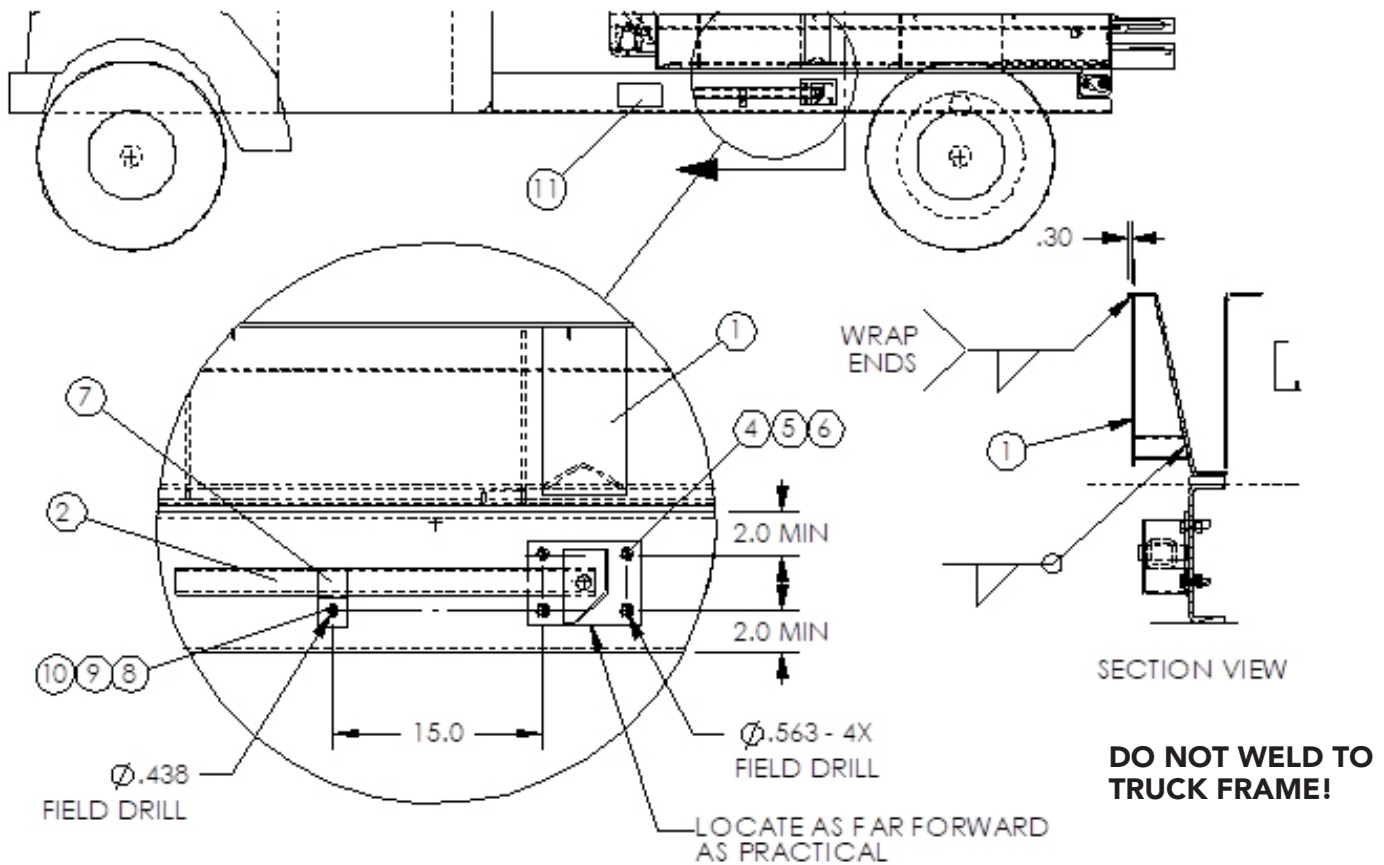

Figure 4 – Body Prop Installation
Install safety decals as required per "Decals" parts list and illustration in this manual. Install "Danger, Crushing Hazard" decals (11, Fig. 4, PN 96704) on front of both truck frame rails, in clear view as shown in Figure 4. Install "Caution, Operation Safety" (PN 96716) and "Caution, Raised Body" (PN 96715) decals in clear view in truck cab.
Place Lower Props (2 & 3) on truck frame rails as shown in Figure 4, as far forward as practical, and mark the centers of the holes. Make sure all the holes are at least two inches from the top and bottom of the rail. Drill 9/16" (1.43 cm) holes. Attach Lower Prop using 1/2" hardware (4, 5 & 6).
Align Upper Prop (1) over Lower Prop (2 & 3), so Upper Prop cup fits directly over Lower Prop rod when it's raised and resting against its rear edge. Tack weld to dump body and test fit to make sure Props work without assistance. Adjust if necessary and weld to dump body as shown in Figure 4.